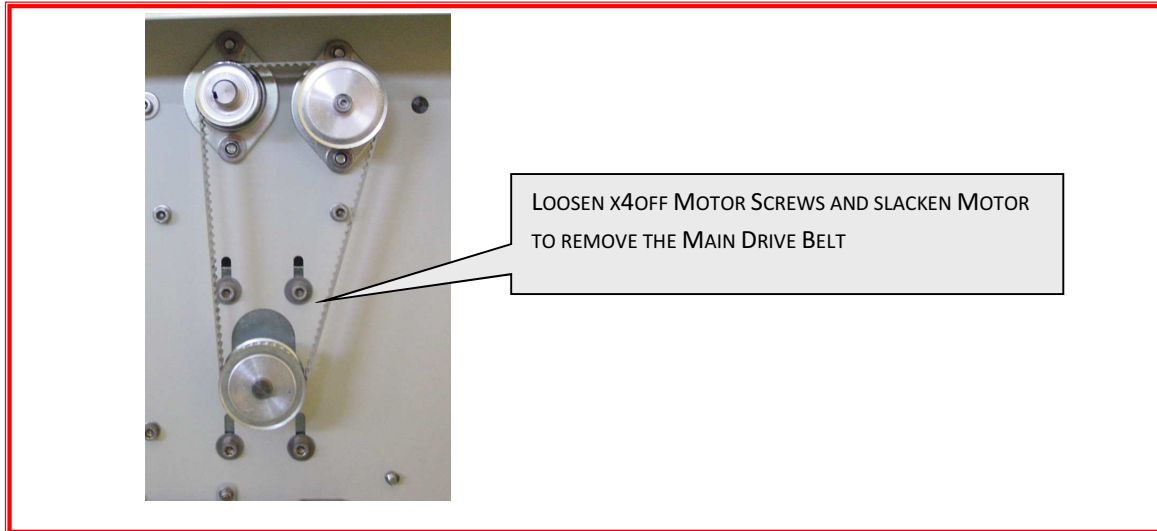

Fig 3.4 Removal of Main Drive Belt
- Remove Main Drive Belt as described in Fig 3.4.
MAIN DRIVE BELT (FIG 3.4)